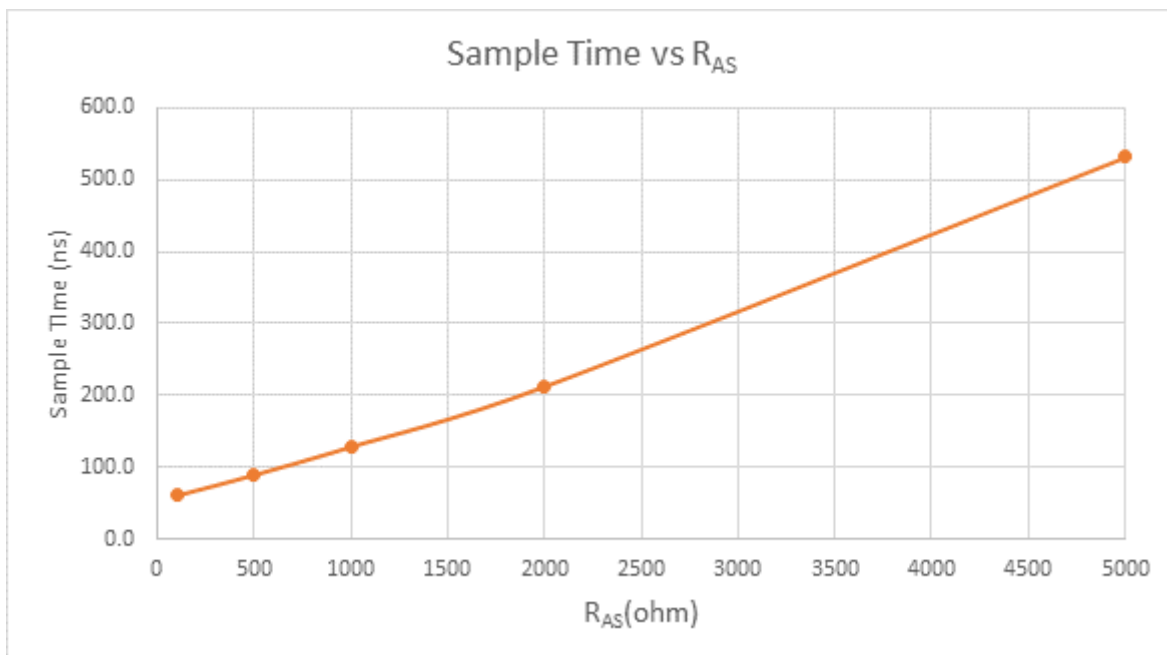

Figure 34. Sample time VS. R_{AS}
⁴ See Figure 34, "Sample time VS. RAS".
- ⁴ See Figure 34, "Sample time VS. R_{AS}".